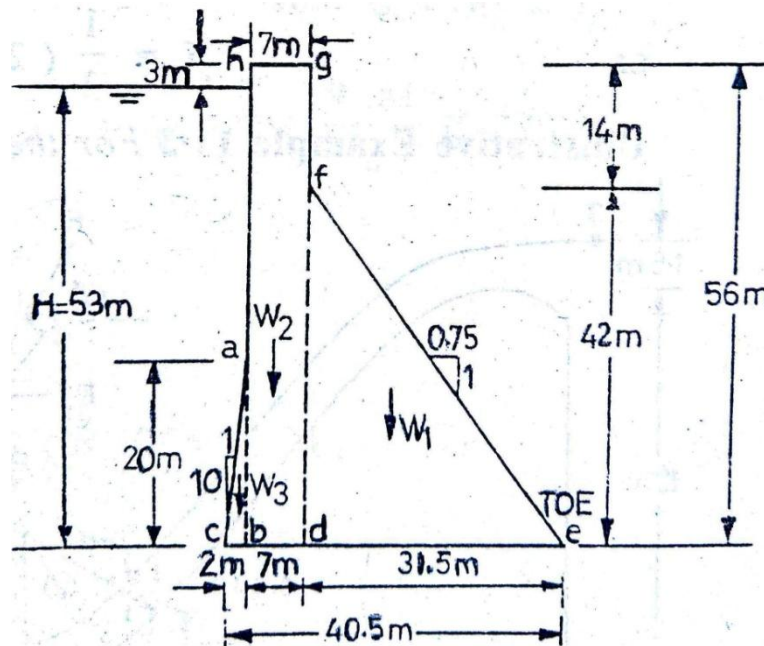

Fig. 1
- (a) Determine the forces due to self weight and water pressure on the non-overflow dam as shown in Fig. 1. Take specific weight (w_c) = 24 kN/m³. and $w = 9.81$ kN/m³. 07